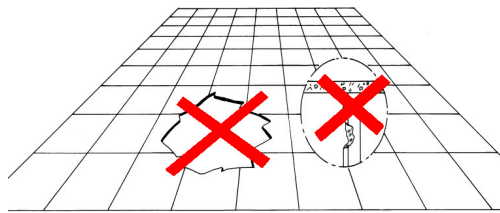

fig. 2.1
2. Prior to installing the cabinet in all its parts, the customer must ensure that the floor where the cabinet is installed is suitably level, that is can support the weight and that the technological arrangements are in place (see SECTION 3 – TECHNICAL PARTICULARS) (fig. 2.1).